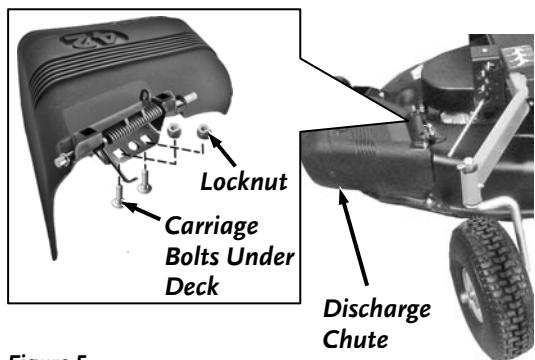

Figure 5
1. From below, insert the two Carriage Bolts up through the holes in the Deck. (Figure 5).